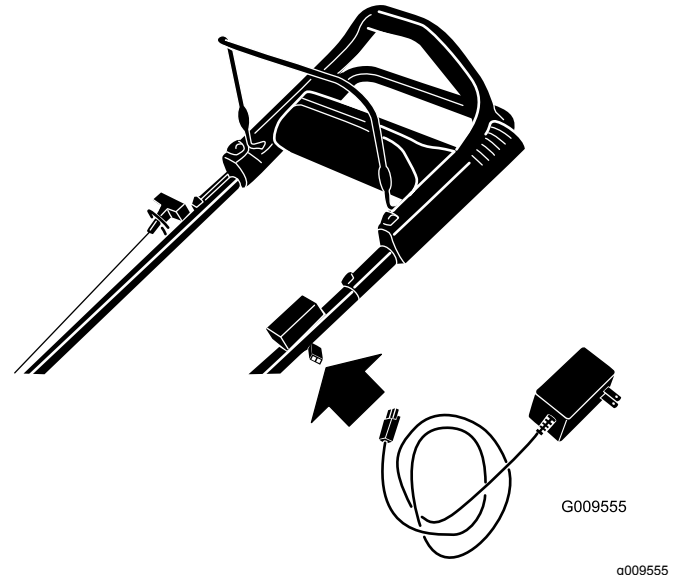

Figure 35
1. Connect the charger to the wire harness located below the electric-start button (Figure 35).